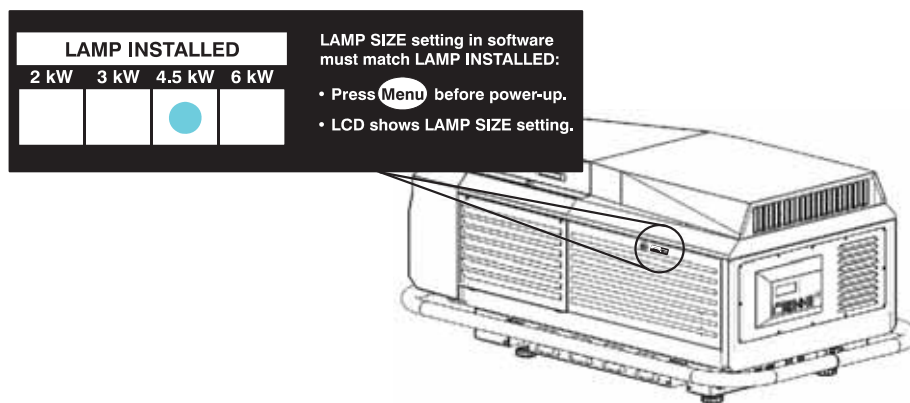

Figure 4-3 Always Mark the "Lamp Installed" Label (EXAMPLE)
- Use the RIGHT and LEFT Arrow keys to locate and select which lamp is currently installed. Make sure the lamp type is also indicated on the lamp door label as shown in Figure 4-3.